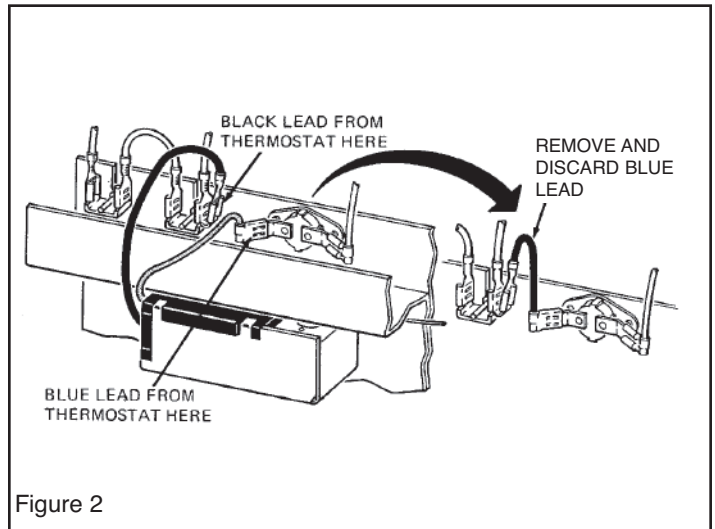

Figure 2
6. Using long nose pliers carefully remove and discard the blue jumper wire that is connected from element terminal (marked "2") to the Thermal Cutout (TCO) (See Fig. 2).
To prevent a possible electric fault or damage to terminals, support terminals so they are not bent when making connections (See Fig. 2). Make sure connections are tight.